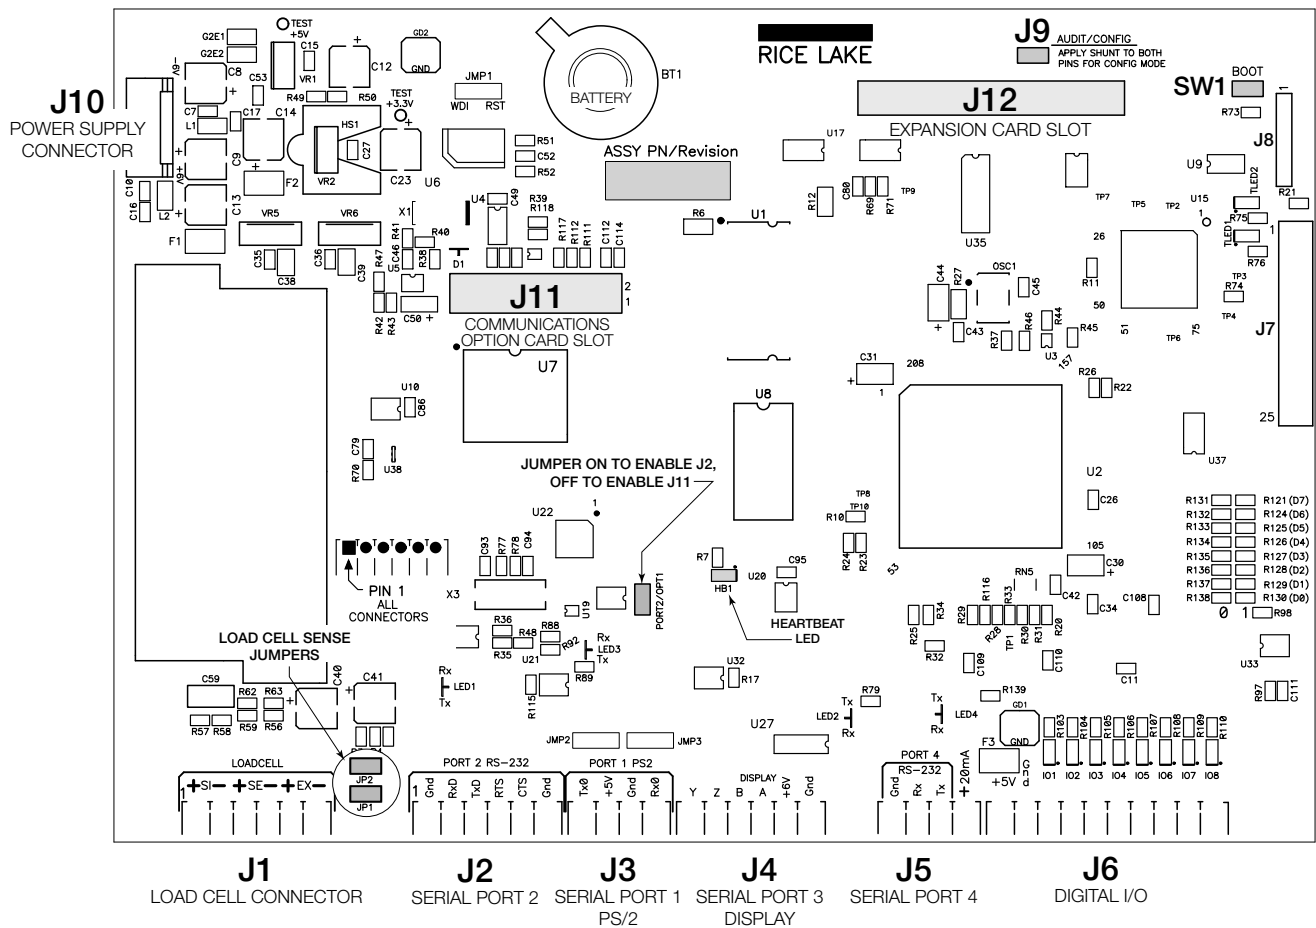

Figure 2-3. 720i CPU Board
Note *Installation of option cards in connector J11 requires removal of the PORT2/OPT1 port selection jumper (see Figure 2-3 on page 9). Install the jumper to enable RS-232 communications through connector J2; remove the jumper to enable an USB, fiber-optic, or Ethernet option card installed in connector J11.*
Table 2-4 shows the connections between connector J4 on the 720i CPU board and connector J3 (Com 1) on the detached display module (DDM) board. See board diagrams in Figures 2-3 and 2-4, on page 9.
2. Carefully align the option card connector with connector J12 or J11 on the CPU board (see Figure 2-3 on page 9). Press down to seat the option card in the CPU board connector.
3. Use the screws provided in the option kit to secure the other end of the option card to the threaded standoffs on the CPU board (see Figure 2-3).
Table 2-5 lists the slot numbers, CPU board connectors, and configuration assignments made for both onboard and expansion card functions in the **720i**. See Figure 2-3 for connector locations.
See Figure 2-3 on page 9 for CPU board battery location and orientation (positive side up).